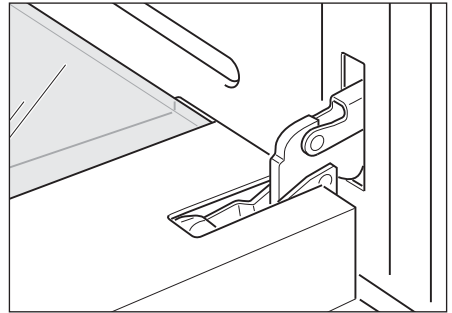

Fig.35a
- Fully open the oven door (Fig. 35a).
- 1 Make sure the door is locked open (see Figs 35a - 35c).